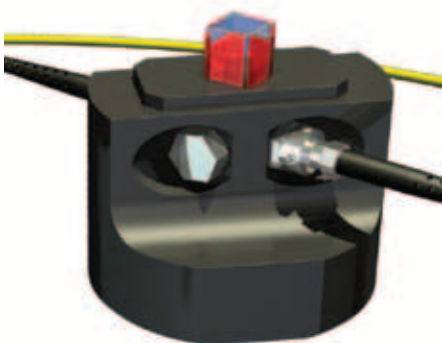

Fig. 4—Cuvette holder with cuvette installed
2. Position the collimators and plugs as shown in **Fig. 4** so that the collimators alternate with the plugs.